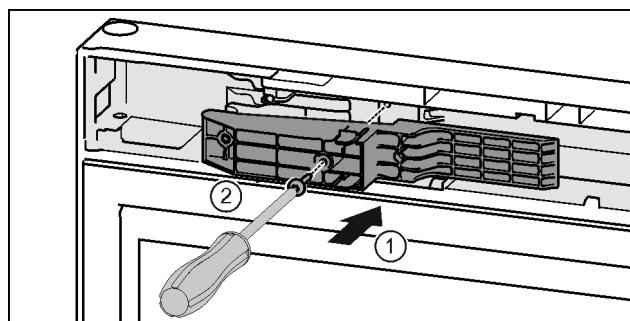

Fig. 46\*
- ▶ Insert the adapter on the handle side in the recess. Fig. 46 (1)\*
- ▶ Tighten the screws using the T15 screwdriver. Fig. 46 (2)\*